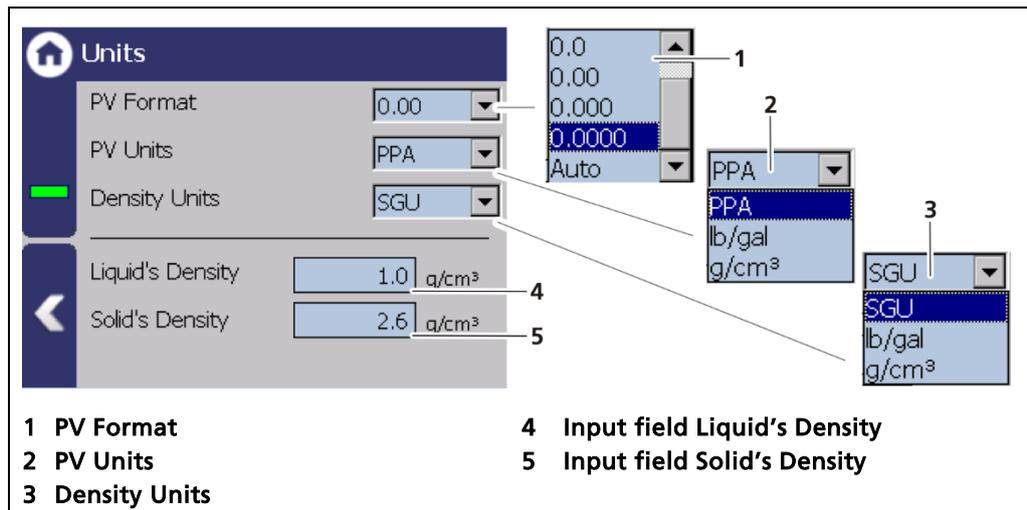

Fig. 33 Basic Setup Menu "Units"
When selecting the unit PPA, the value for respective density g/cm^3 must be entered in the input fields Liquid's Density (Fig. 33, item 4) and Solid's Density (Fig. 33, item 5).